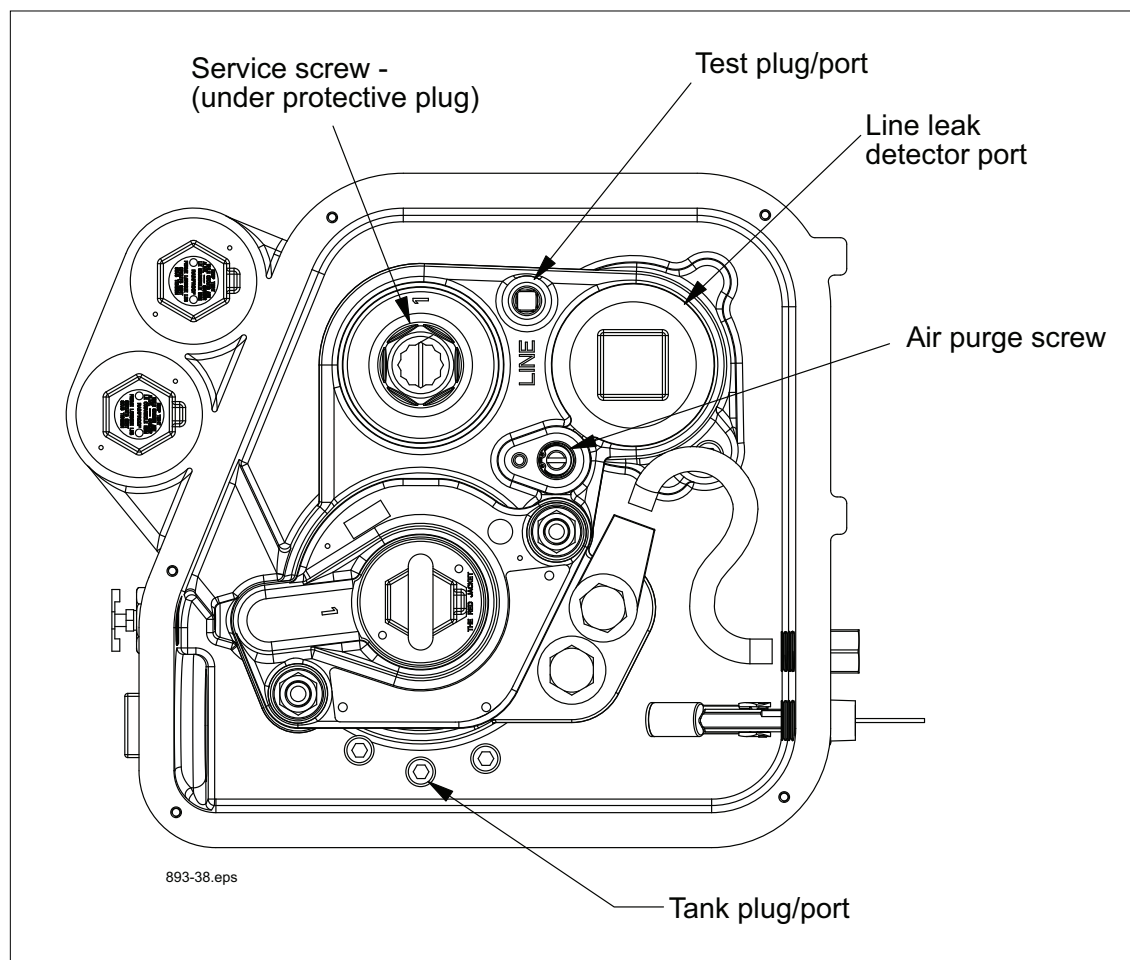

Figure 55. Service Screw, Line Test Port, And Air Purge Screw Locations
7. Remove and retain the protective plug over the service screw and turn the service screw clockwise (see Figure 55). As the screw approaches its bottom position, you will hear the system depressurizing. Continue turning the screw until it can go no further.
8. Remove line test port plug (see Figure 55). Apply line test pressure at line test port (50 psi [345 kPa] maximum).
11. Turn the air purge screw counterclockwise until its shoulder comes in contact with the retaining ring (see Figure 55).
7. Remove and retain the protective plug over service screw and turn the service screw clockwise (see Figure 55). As the screw approaches its bottom position, you will hear the system depressurizing. Continue turning the screw until it can go no further.